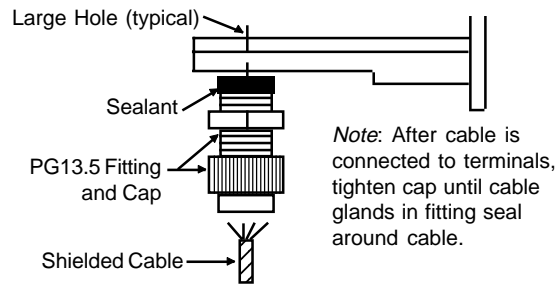

Figure 3-14. Inserting Shielded Interconnect Cable through PG13.5 Fitting and Cap
- Non-conduited installation — See Figure 3-14. Spread a generous bead of sealant around the sides of the PG13.5 cable fittings. Install the fittings in the two large holes in the bottom of the junction box.